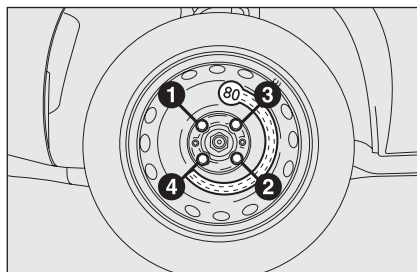

fig. 15
- ☐ using the wrench provided, fully tighten the bolts in the sequence shown previously in figure **fig. 15**.
- ❑ using the wrench provided, fully tighten the bolts in the sequence shown in **fig. 15**.